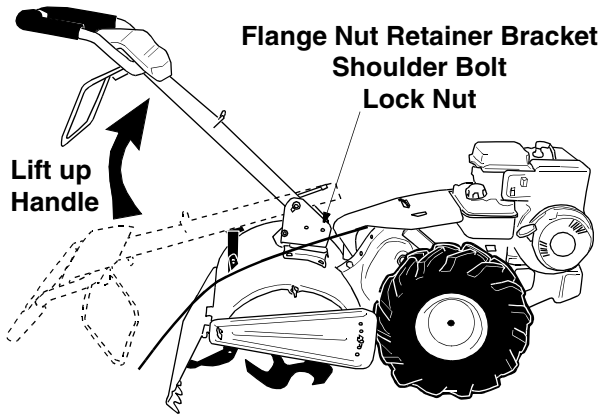

Figure 3
- Lift up the handle assembly and align the bottom holes in the handle assembly with the holes in the pivot bracket. Insert hex bolt (with hex nut retainer attached through the round hole). The head of hex bolt, flange nut retainer bracket should be to the right hand side of the unit. See Figure 3.